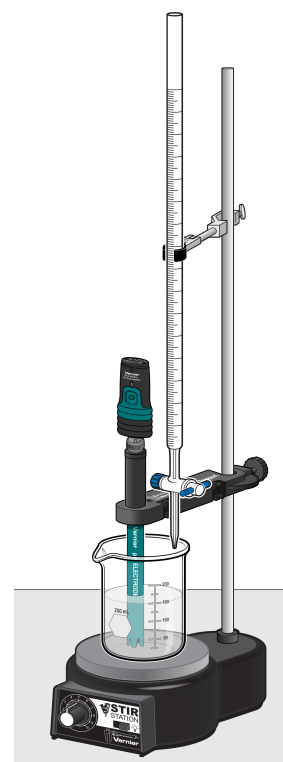

Figure 1
5. Use an Electrode Support to suspend a pH Sensor on a Stir Station as shown in Figure 1. Position the pH Sensor in the lemonade mixture and adjust its position so that it is not struck by the stirring bar.
6. Obtain a 50 mL buret and rinse the buret with a few mL of the 0.10 M NaOH solution. **DANGER:** *Sodium hydroxide solution, NaOH: Causes severe skin burns and eye damage. Do not breathe mist, vapors, or spray.* Dispose of the rinse solution as directed by your teacher. Use a buret clamp or a utility clamp to attach the buret to the Stir Station as shown in Figure 1. Fill the buret a little above the 0.00 mL level of the buret with 0.10 M NaOH solution. Drain a small amount of NaOH solution so it fills the buret tip and leaves the NaOH at the 0.00 mL level of the buret. Use a waste container to catch the solution as it leaves the buret. Record the precise concentration of the NaOH solution in your data table.